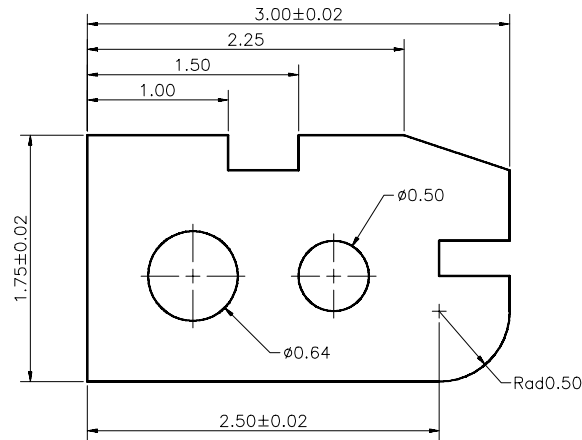

Figure 10-33 Drawing for Example 2
In this example, you will update the overall dimension (3.00) so that the tolerance is displayed with the dimension. You will also add two linear dimensions, as shown in Figure 10-33.
6. Draw the remaining two linear dimensions. They will automatically appear with the tolerances, see Figure 10-33.